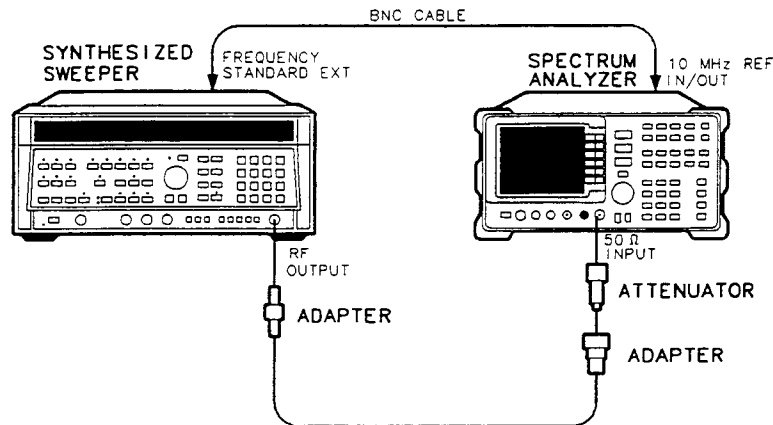

Figure 3-8. Input Attenuator Test Setup, ≥ 50 MHz
23. Connect the equipment as shown in Figure 3-8 using the HP 8493C 10 dB attenuator. The HP 8561B provides the frequency reference for the HP 8340A/B.